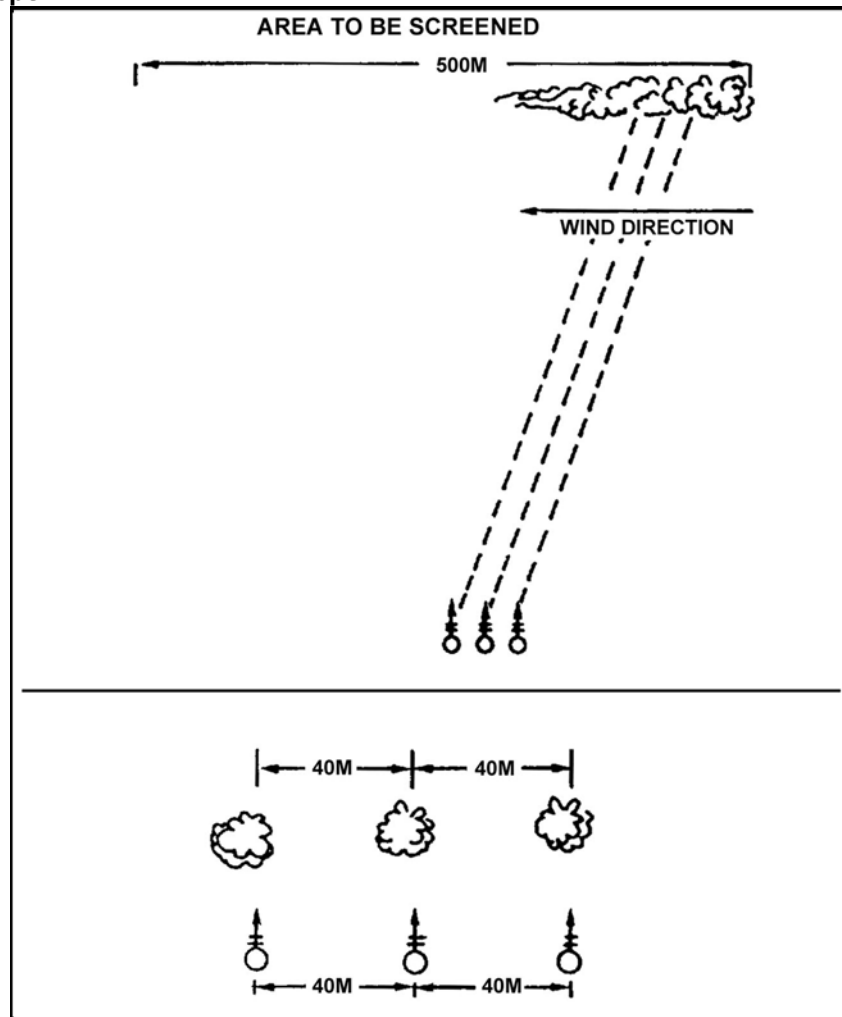

Figure 1. Quick-Smoke Planning Factors
a. The quick-smoke mission is computed the same as a high-explosive (HE) area-type mission (parallel sheaf) with the following exceptions (Figure 1).
(1) The upwind flank mortar is the adjusting mortar for the mission.
(2) The last adjusting round is a WP round (adjusting phase).
(3) Final corrections are made by the forward observer (FO) and the fire direction center (FDC) based on the WP round. Final data are given to the mortar crews, and the crews are told to stand by to fire for effect (FFE).
(4) During this wait, the crews are informed how the mission will be fired, and how many rounds each mortar will have prepared to fire.